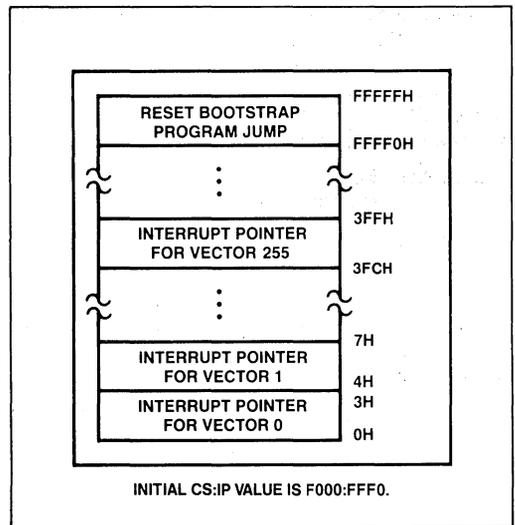

Figure 9. iAPX 86 Real Address Mode Initially Reserved Memory Locations
The 80286 reserves two fixed areas of memory in real address mode (see Figure 9); system initialization area and interrupt table area. Locations from addresses FFFF0(H) through FFFF(H) are reserved for system initialization. Initial execution begins at location FFFF0(H). Locations 00000(H) through 003FF(H) are reserved for interrupt vectors.